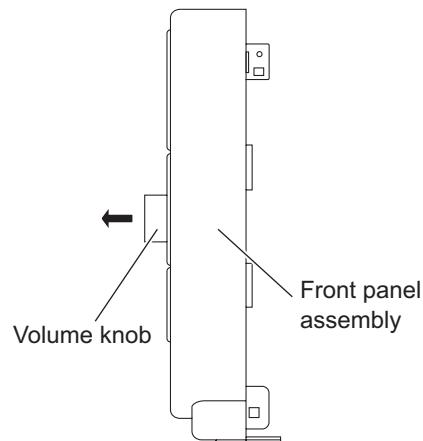

Fig.25
- (1) From the front side of the front panel assembly, pull out the volume knob in the direction of the arrow. (See Fig.25.)